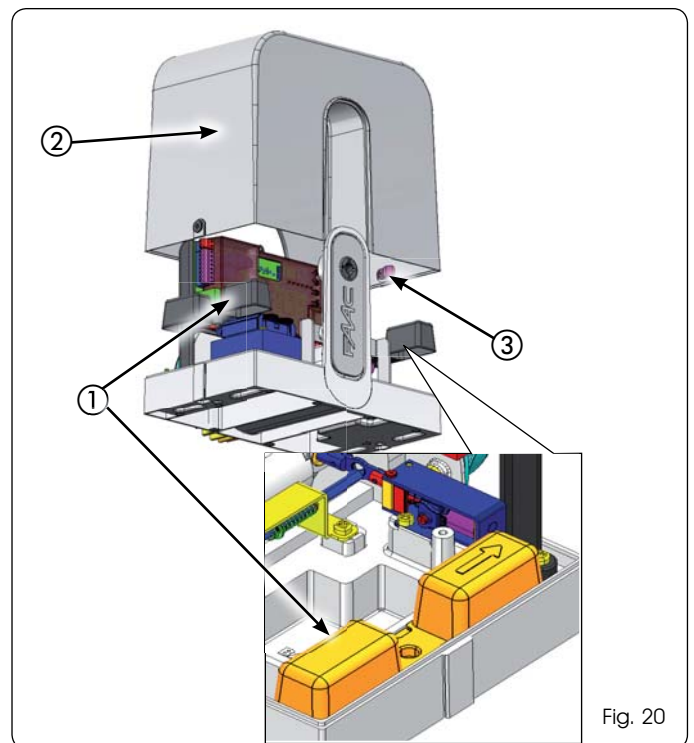

Fig. 20
Press-fit the plastic covers of the operator fastening bolts, ensuring that the arrow is facing the gate (Fig. 20 re. ①), insert the cover casing (Fig. 20 re. ②) and turn the side clips (Fig. 20 re. ③).